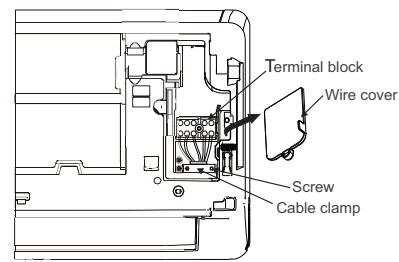

Fig. 7 — Terminal Block
2. Using a screwdriver, open the wire box cover on the right side of the unit. This will reveal the terminal block (see Figure 7).